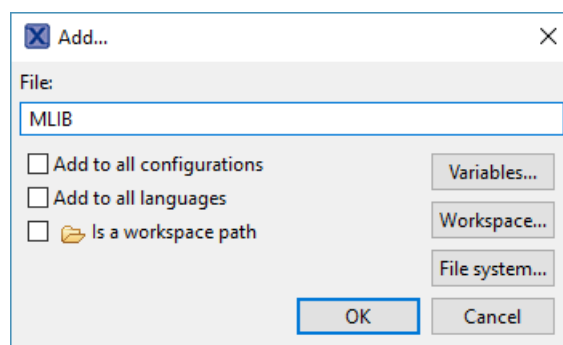

Figure 1-10. Library file inclusion
11. Type the following into the File text box (see Figure 1-10): `:mlib.a`